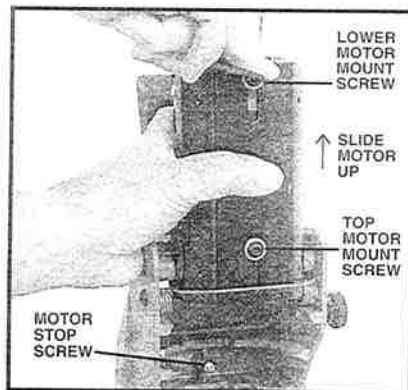

Fig. 3
5. Engage the transport lock in the DOWN position before moving or storing the Pocket Cutter. **TO ENGAGE:** Push motor unit down against the motor stop screw (see Fig. 3) and hold while turning the lock knob clockwise until tight.
2. Tilt motor unit upside-down (see Fig. 3) and hold while loosening lower motor mounting screw and sliding motor UP to the maximum depth-of-cut position; tighten lower motor mounting screw.
1. Tilt motor unit up and hold while loosening lower motor mounting screw (see Fig. 3).